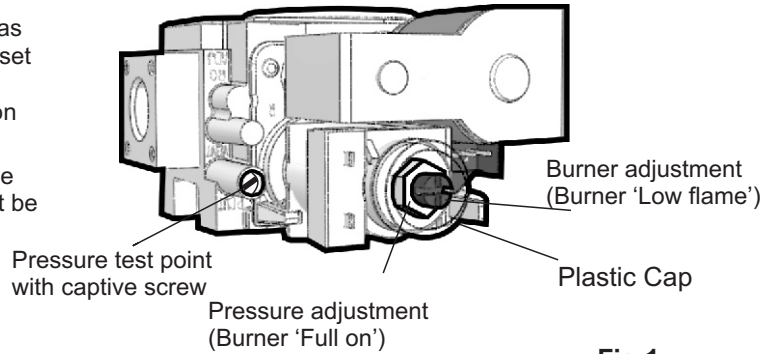

Fig 1.
1. Gas control layout is as indicated in Fig 1.